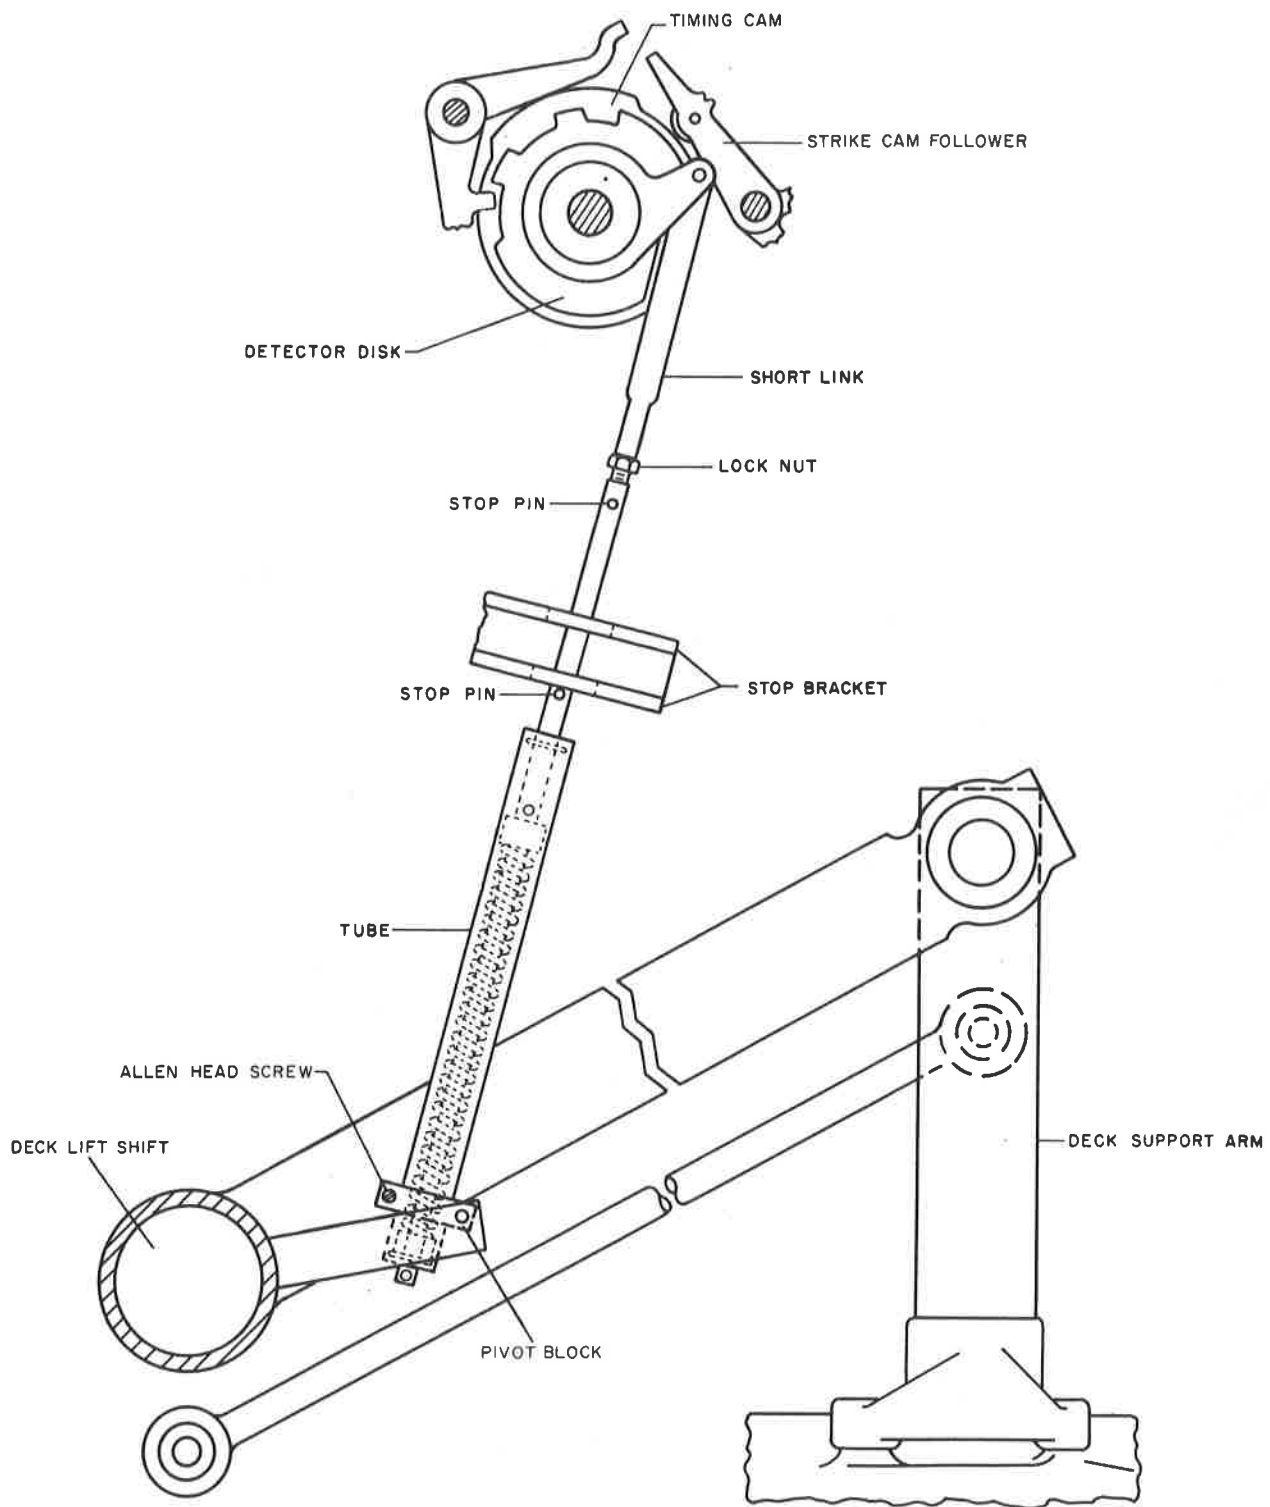

Figure 59. Detector Rod Adjustment
1. DETECTOR ROD ADJUSTMENT. (FIGURE 59)